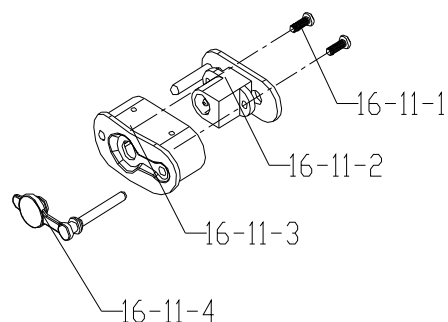

Figure 19
1. Figure 19, illustrate the power adapter board assembly. Remove the 2 crosshead plate tapping screws ST2.2×6.5 (16-11-1#).